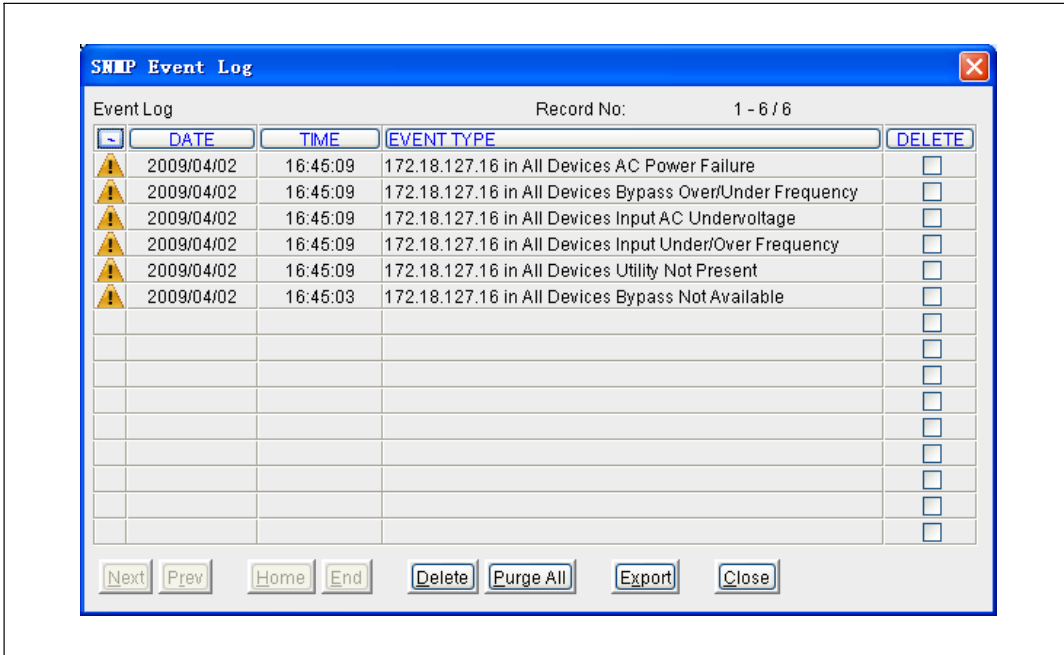

Figure 101. Event Log
- 7 To view the event records for any Dell UPS monitored by a Network Management Card, select the UPS under the SNMP node in the tree view and select **SNMP Event Log** from the **SNMP** menu. The Event Log for the selected UPS opens (see Figure 101).